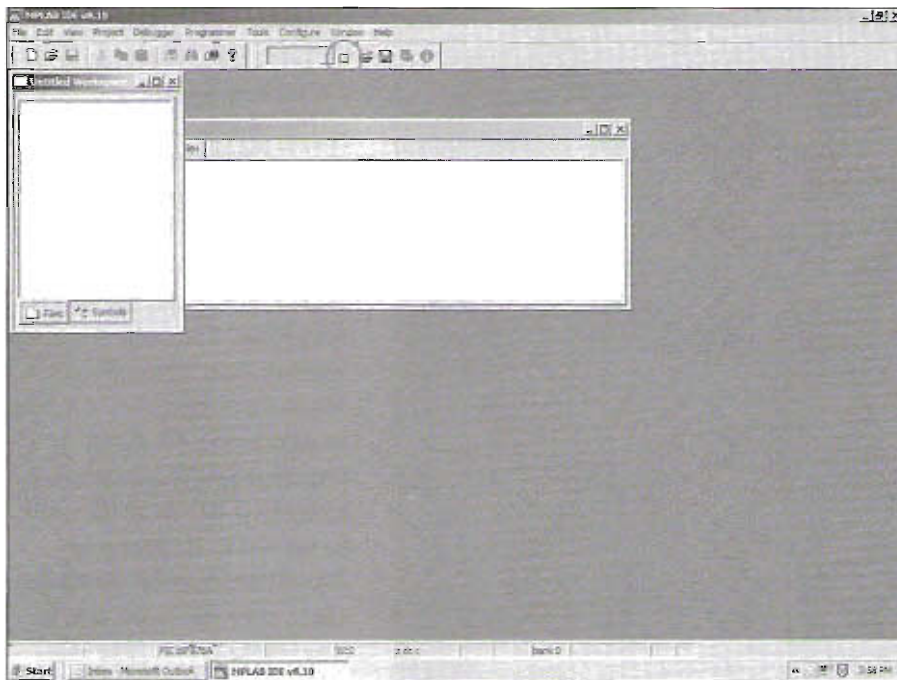

Figure 5-2 — Icon for the NEW PROJECT wizard function that walks you through the process of creating a new program.
Step 2. Launch *MPLAB IDE* and you will see the application's window as illustrated in Figure 5-2. Note at the top menu bar of your computer screen a green file folder with a yellow sun-burst in the corner. If you move your mouse pointer over this icon and hesitate you will see the name of this icon popup as **NEW PROJECT**. This is the *new project wizard function* that will walk you through the process of creating a new program.